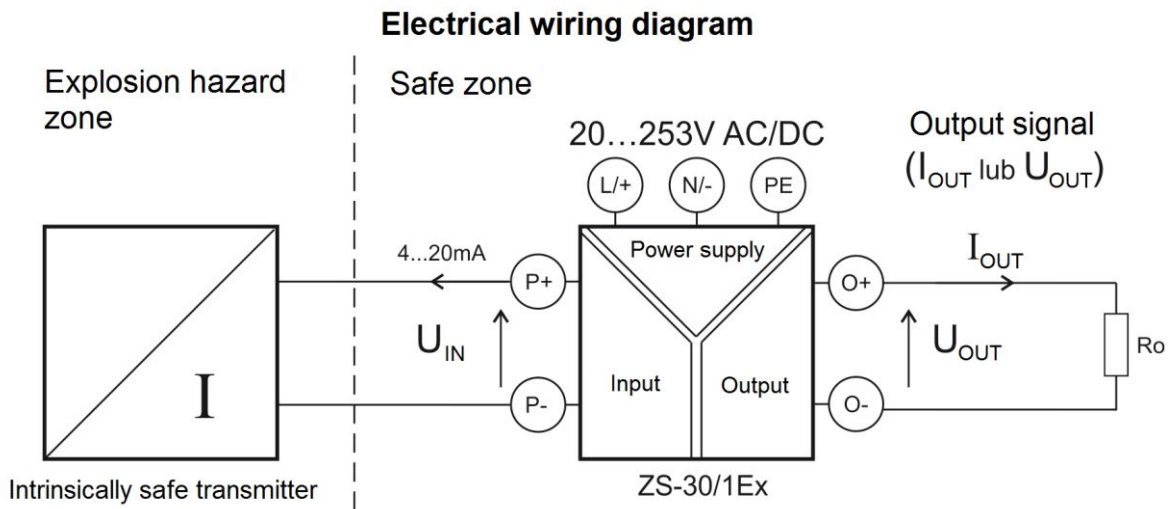

FIG.1 ZS-30/1Ex power supply-isolator connection diagram with converter
10.2. Power supply-isolator should be connected as shown in Fig. 1. The input terminals <P+> and <P->, marked with a blue label, should only be connected to intrinsically safe circuits (e.g., transmitters) with a protection level of “ia” or “ib” and without internal power sources. The power and measurement line to the hazardous zone (input circuit) should be installed in accordance with EN 60079-25:2023. The maximum values of inductance and capacitance of the circuit, as specified in the certificate and section 7.11, must not be exceeded. It is recommended to use twisted pair cables for signal lines and, in the case of significant electromagnetic interference, a twisted pair in shielding. Signal cables should not be routed together with interfering cables, such as near large energy-consuming devices or alongside power and control cables for inductive loads.
- 10.10** Connect the PE (grounding) terminal (see Fig. 1, section 15) to the grounding system.